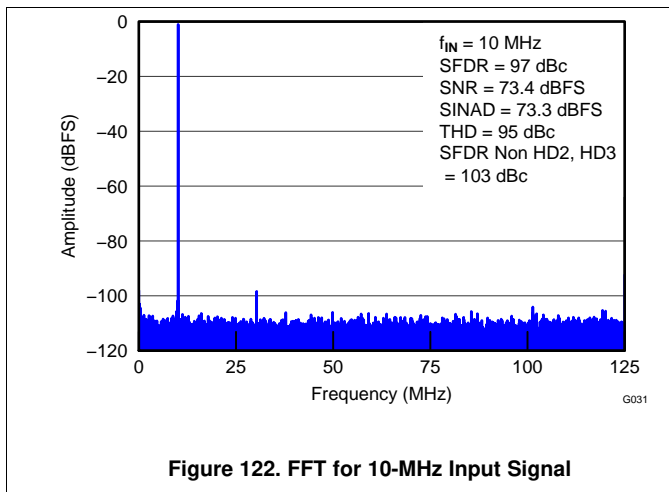
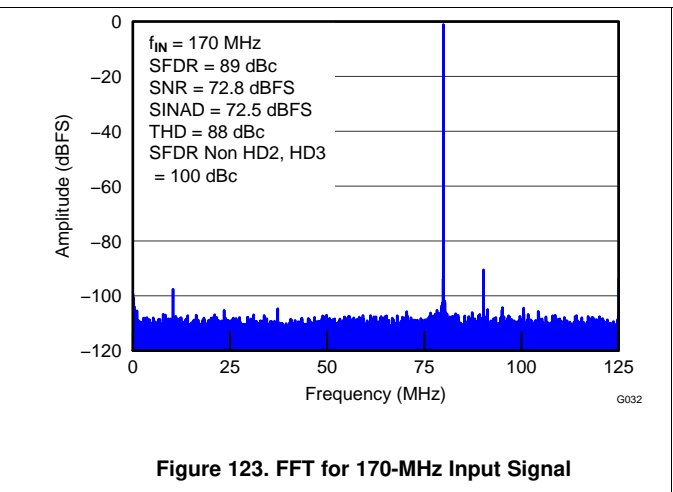

Figure 122. FFT for 10-MHz Input Signal
Figure 123. FFT for 170-MHz Input Signal
Input frequency (IF)	10 MHz (Figure 122), 170 MHz (Figure 123)